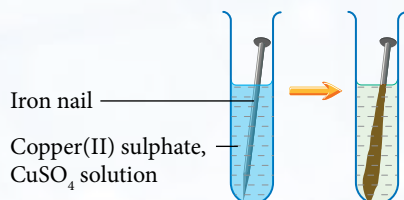

Figure 3.8 An iron nail is placed into the copper(II) sulphate, CuSO_4 solution
- An experiment was carried out by putting an iron nail into copper(II) sulphate, CuSO_4 solution. Figure 3.8 shows the result of the experiment.